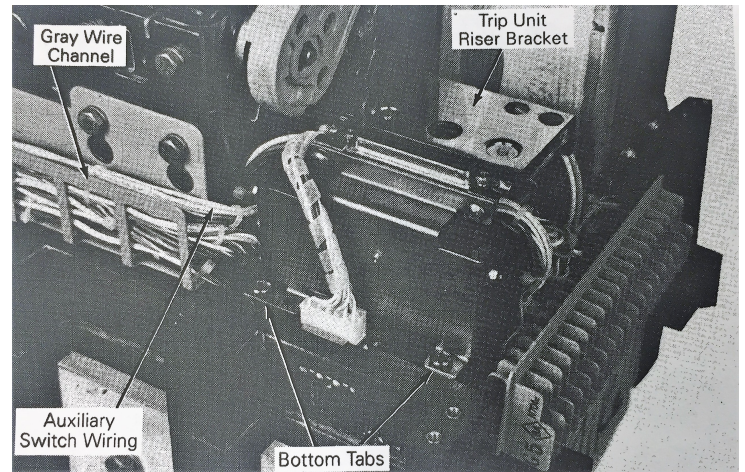

Figure 5. Auxiliary Switch Module installed under the trip unit plate.
6. Insert the Auxiliary Switch Module by resting the bottom tabs on the breaker and rotating the module under the trip unit plate, as shown in Figure 5. The switches click when they are inserted properly. Ensure that none of the wires are pinched between the Auxiliary Switch Module and the breaker mechanism.
7. Reinstall the four #10-32 screws removed from the riser bracket, as shown in Figure 5, and tighten to 25 in-lb, beginning at the top.
12. Route the auxiliary switch wires through the gray-painted channel, as shown in Figures 5 and 6, using wire ties as needed to secure the wires. Ensure that the wires do not come into contact with any moving parts.